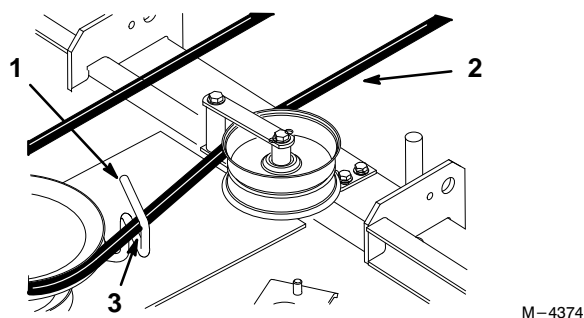

Figure 50
11. Rotate the belt guide, on rear of the mower, so it is 1/8"-1/4" (3-7 mm) away from the vertical side of the PTO belt (Fig. 50).